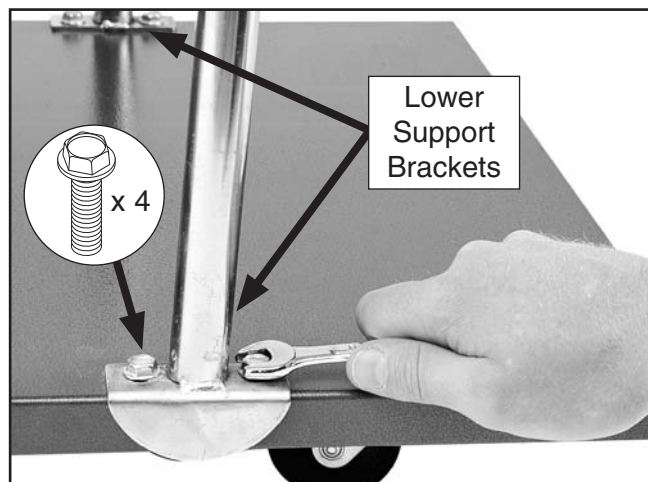

Figure 26. Mounting support bracket to base.
4. Attach the lower collector support brackets to the top edge of the base plate using (4) $\frac{5}{16}$ "-18 x $\frac{1}{2}$ " flange bolts, as shown in **Figure 26**.